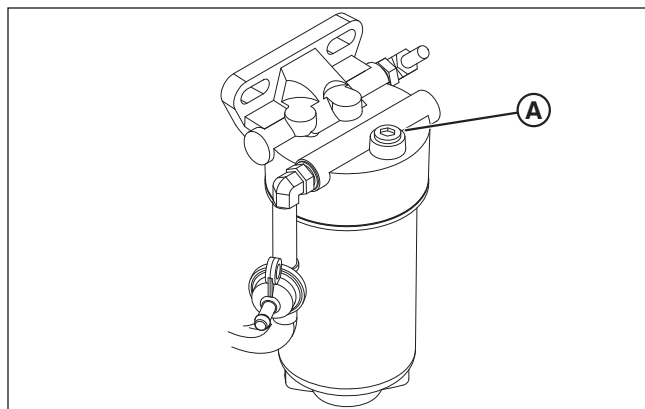

Figure 6. Priming the Fuel System
- Loosen the vent screw (A, Figure 6) on the water separator.
- The ignition switch will allow the electric priming pump to operate. When fuel free from air comes from the vent screw, tighten the vent screw to a torque of 24 Nm (212 in-lbs). Then, operate the electric priming pump for two (2) minutes.